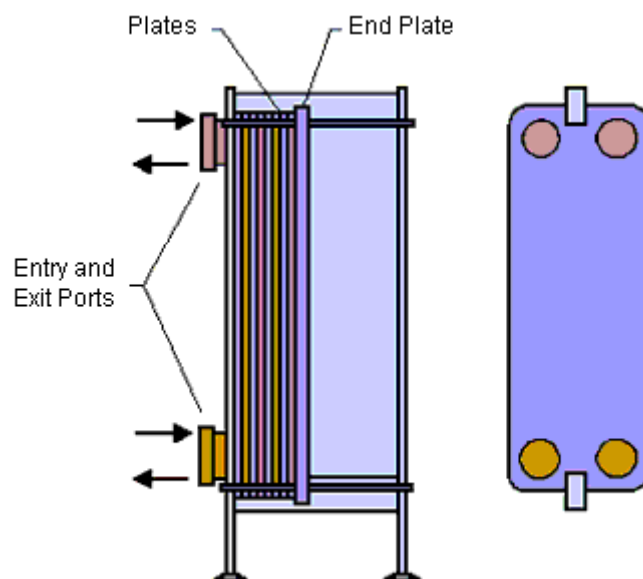

Figure 11.7 Plate heat exchanger
- The plate heat exchanger (see **Figure 11.7**)